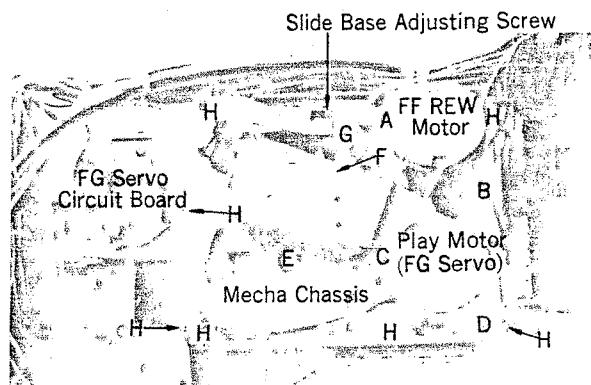

Fig. 5-6
- 2) Loosen sufficiently the Slide Base adjusting screw in Fig. 5-6, up to the point where the pinch rollers begin apart from the capstan.
- (1) By using a screw driver, screw-in the Flywheel Thrust Bearing to its end. (fasten slightly) (E in Fig. 5-6).
(2) Turn back (loosen) by one revolution from its end position where the Bearing is fully fastened.